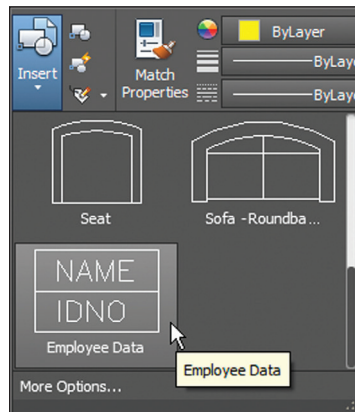

FIGURE 15.13 Inserting the Employee Data block you defined in the previous section
2. Switch to the ribbon's Insert tab. Click the Insert tool in the Block panel. Scroll down the list of icons in the block gallery and select Employee Data (see Figure 15.13).